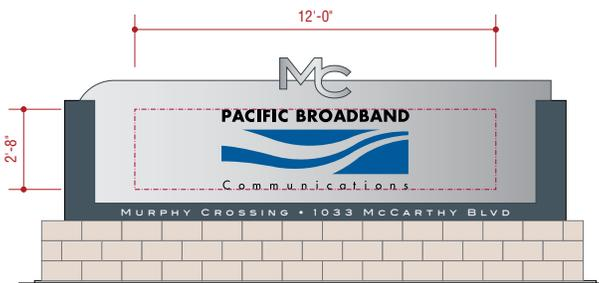

FIGURE 1 - Tenant occupying both Buildings A & B
An Anchor Tenant that occupies one hundred percent (100%) of the leasable floor space in both Buildings A and B may mount their identification in allotted tenant logo area as shown below in Figure 1.
- Center identity within allotted tenant area as shown in Figures 1 and 2.